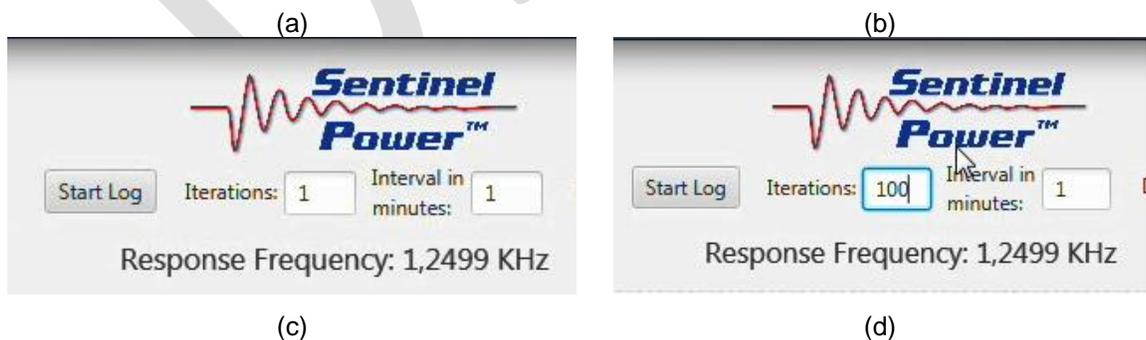

Figure 13: Examples of logging settings
1. In preparation for running a test, set the desired number of iterations (that is, the number of SMRT Probe 4000 assessments to be made over time) and the desired interval time between assessments, in the dialog box shown in Figure 13 (a). The interval time is expressed in minutes. The combination of the number of iterations and the interval time in between assessments determines the overall test execution time.
In Figure 13 (c), the number of iterations is set to 100 and the interval time is set to 17, meaning that an assessment will be made every 17 minutes and that in total 100 assessments will be made over a time period of 1700 minutes. (Figure 13 (b) shows 100 iterations at one-minute intervals.)
2. To start the test, click the **Start Log** button (Figure 13 (a)). Once the test is started, the name of the Start Log button changes to Stop Log (Figure 13 (d)) and the number of iterations decreases by one, because after you click the Start Log button, a first assessment is made and an output file is created in the directory where the SMRT Probe 4000 software is installed. The output file name has the following naming convention: **sp-mm-dd-yyyy-hh-mm-ss.csv**, where in the actual filename, dd is replaced by the number of the day on which the test is started, mm is replaced by the number of the month, yyyy is replaced by the value of the year, hh by the hour, mm by the minute, and ss by the seconds. For example, a filename of “sp-11-23-2014-10-11-12.csv” means that the file contains data from a test that was started on 23 November 2014 at 10:11:12.
While the test is running, the Iterations and Interval fields are dimmed (Figure 13 (d)).